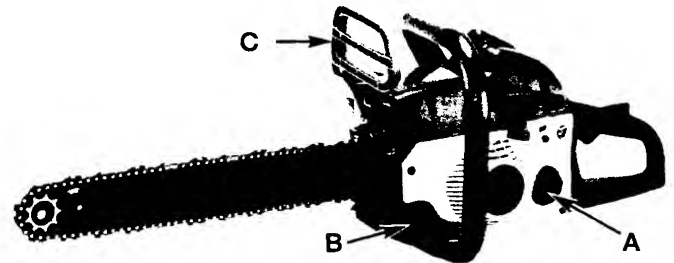

Fig. 3
1. Mix gas with oil. Fill fuel tank (A, Fig. 3) with fuel/oil mixture. See *Oil and Fuel Mixing Instructions*.
2. Fill the oil tank (B) with correct chain and bar oil (Fig. 3).
3. Be certain the Chain Brake® is disengaged (C) before starting unit (Fig. 3).